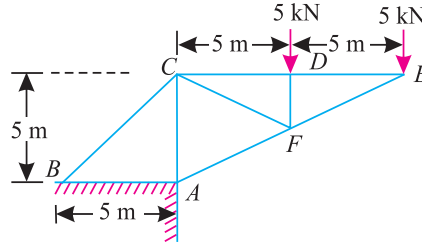

Fig. 14.31.
**Example 14.13.** A frame is supporting two loads of 5 kN each at D and E as shown in Fig. 14.31.
**Solution.** First of all, draw the space diagram for the frame and name the members according to Bow's notations as shown in Fig. 14.31 (a).